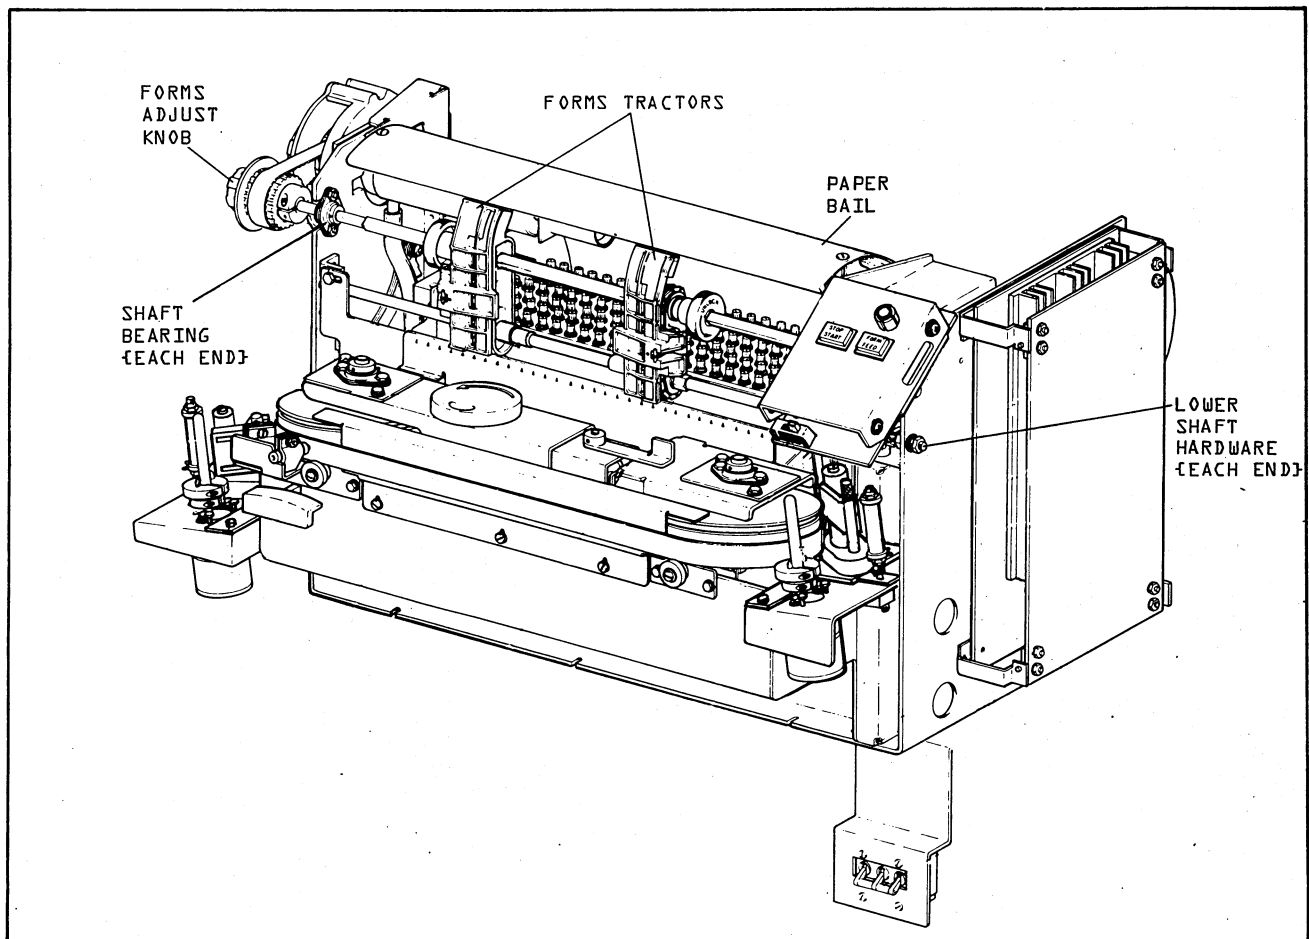

FIGURE 5-43 TRACTOR REMOVAL AND REPLACEMENT
6. Loosen the collar clamp and remove the forms adjusting knob from the upper shaft. See Figure 5-43.